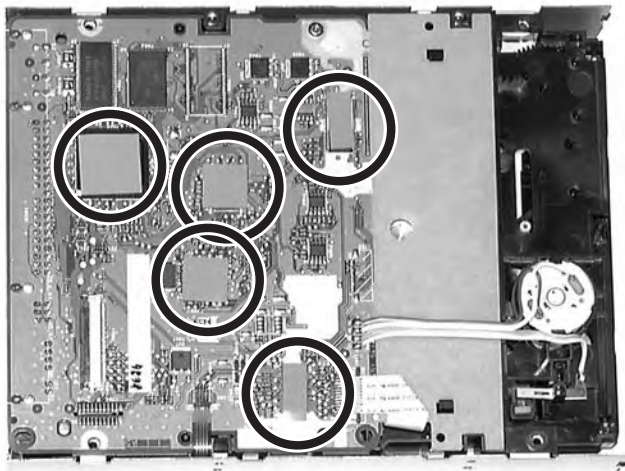

Figure 4-6 Heat Path
- **Heat Paths:** Put the 5 heat paths (gray rubber pieces) back to their position on the ICs, see figure 4-6.